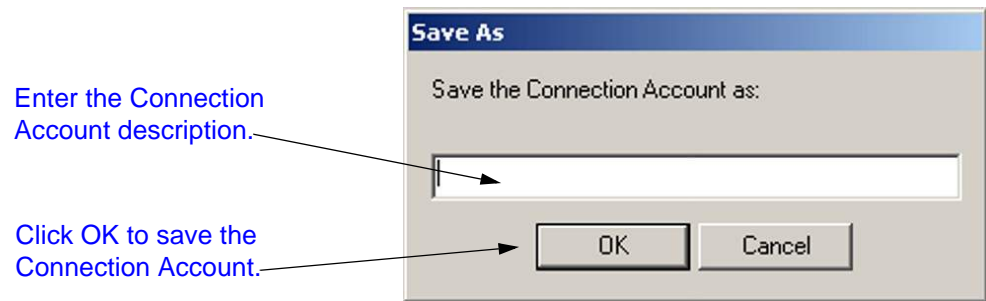

Figure D-2 Save As Connection Account Dialog
4. When the Save As dialog is displayed, enter a description of the connection (refer to Figure D-2 Save As Connection Account Dialog on page D-3.)